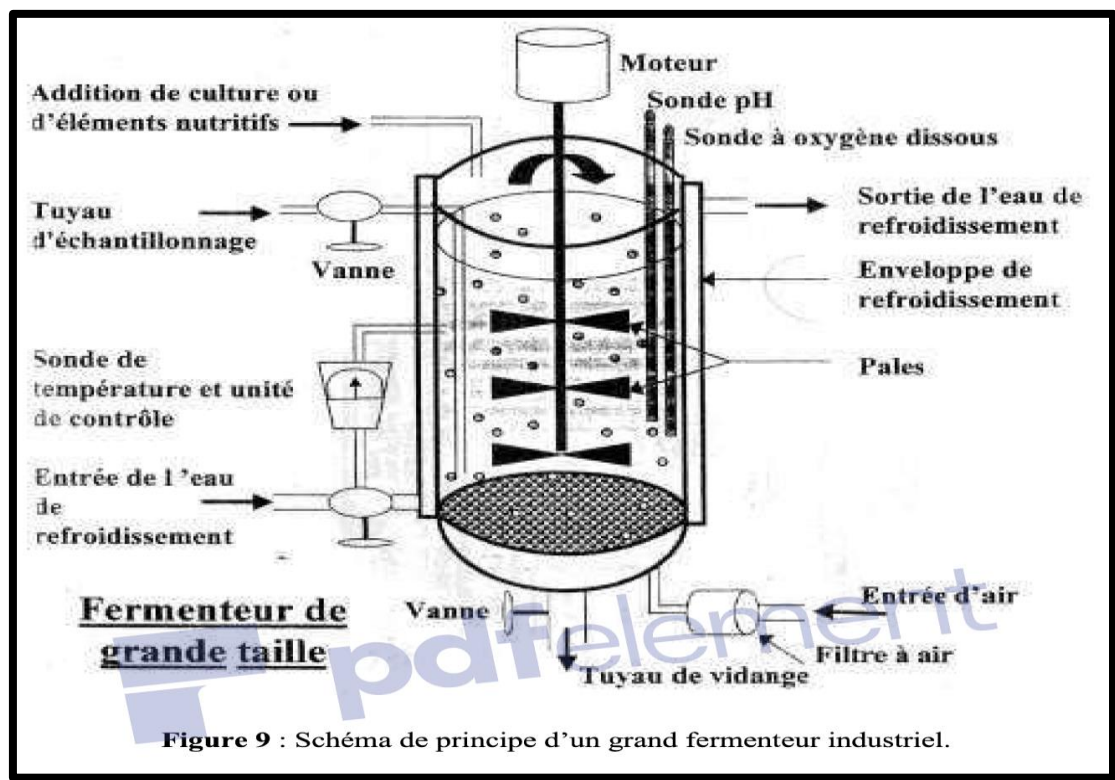

Figure 5 : Components of a bioreactor.
5.3. Components of a bioreactor : A bioreactor consists of (figure 5) :